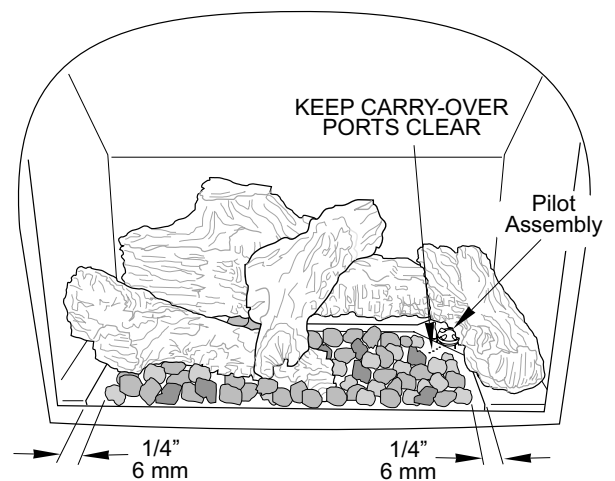

Figure 36. Position embers loosely and maintain 1/4" clearance from the burner skirt edges and pilot carry-over ports.
**TO INSURE PROPER BURNER FUNCTION, DO NOT OBSTRUCT THE PILOT ASSEMBLY AND BURNER SKIRT OPENINGS WITH EMBER STONES. KEEP EMBERS OFF OF THE PILOT CARRY-OVER PORTS. SEE FIG. 36.**